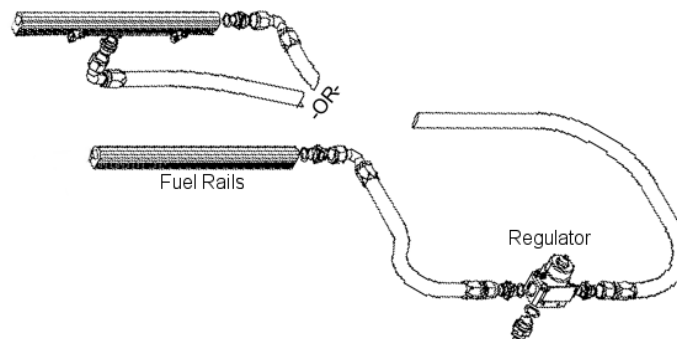

Figure 3-2
- 3-6. Starting from the fuel rails, plan a route to run an AN-06 supply line from each fuel rail to each side of the regulator, see **FIGURE 3-2**. Cut the two supply lines to the determined length and install the AN-06 hose ends, as detailed in Section 4.
- 3-7. Using the above steel braided hose assemblies, connect one end to the side of the fuel pressure regulator and the other end to the fuel rails, as shown in **FIGURE 3-2**, and tighten.